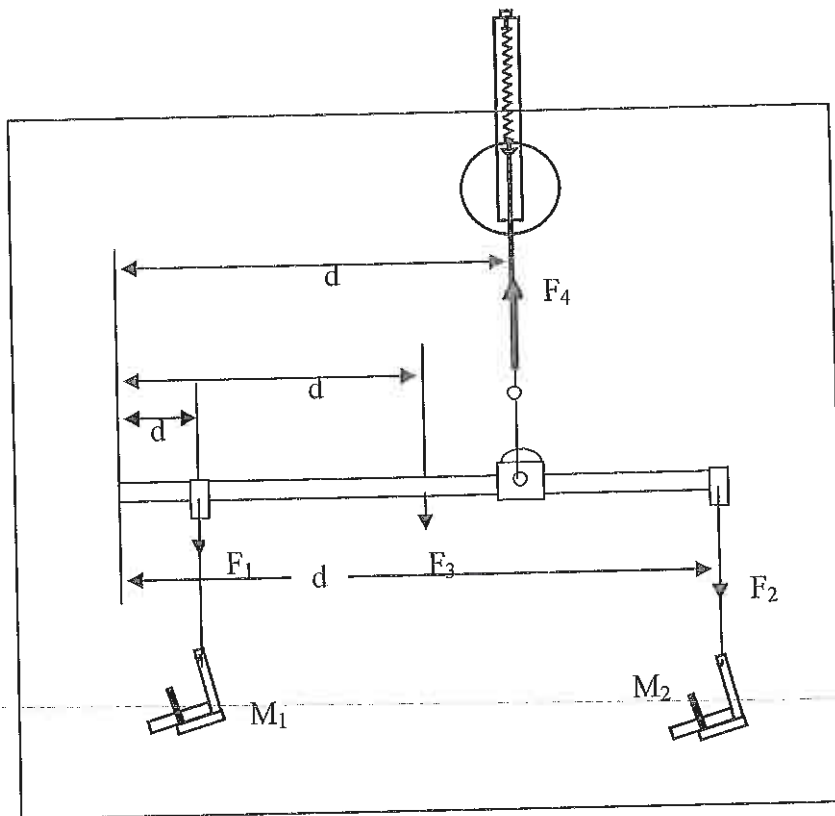

Figure 8.6: Changing the origin
4. In measuring the torques, all distances were measured from the point of suspension of the balance beam. This measures the tendency of the beam to rotate about this point of suspension. You can also measure the torques about any other point, on or off the balance beam. Using the same forces as you used in Table 8.1 above, remeasure the distances, measuring from the left end of the balance beam as shown in Fig. 8.6. Then recalculate the torques to determine the tendency of the beam to rotate about the left end of the beam. Record your data in Table 8.2. As before, indicate whether each torque is clockwise (cw) or counterclockwise (ccw).